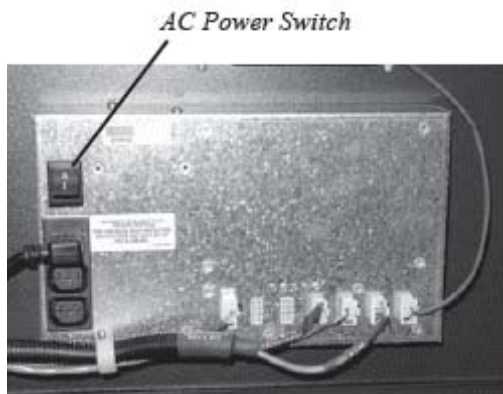

Fig. 7-9. Power supply On/Off switch location.
2. Locate the **ON/OFF** switch on the POWER SUPPLY, as shown in Figure 7-9. Move switch to the **OFF <0>** position.